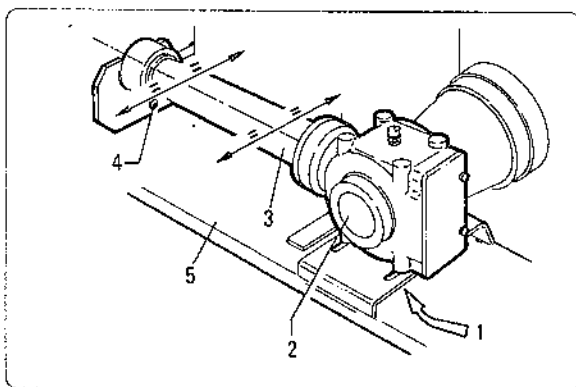

fig. 7.8.2
- 1 - slacken bolts "1" fig. 7.8.2 that fix the gearbox and bolt "4" that locks the chassis extension in place.